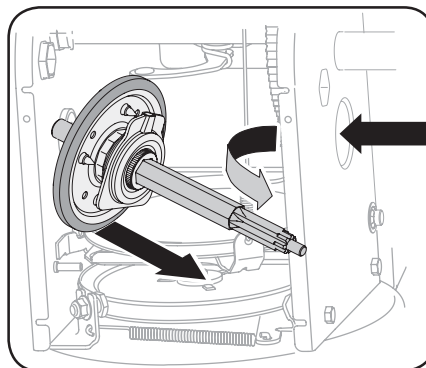

Figure 4-22
- Carefully position hex shaft downward and to left before carefully sliding friction wheel assembly off shaft. See Figure 4-22.